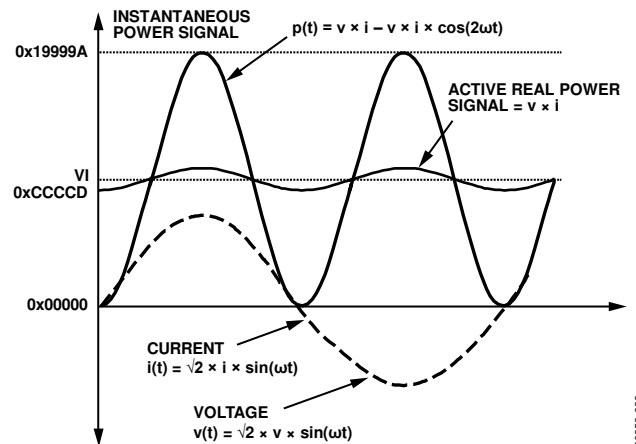

Figure 64. Active Power Calculation
Note that the active power is equal to the dc component of the instantaneous power signal $p(t)$ in Equation 11, that is, VI . This is the relationship used to calculate active power in the ADE7116/ADE7166/ADE7169/ADE7566/ADE7569. The instantaneous power signal $p(t)$ is generated by multiplying the current and voltage signals. The dc component of the instantaneous power signal is then extracted by LPF2 (low-pass filter) to obtain the active power information. This process is illustrated in Figure 64.
The ADE7116/ADE7166/ADE7169/ADE7566/ADE7569 also incorporate an active power offset register (WATTOS[15:0], Address 0x20). It is a signed, twos complement, 16-bit register that can be used to remove offsets in the active power calculation (see Figure 64). An offset can exist in the power calculation due to crosstalk between channels on the PCB or in the IC itself. The offset calibration allows the contents of the active power register to be maintained at 0 when no power is being consumed.
As mentioned in the Active Energy Calculation section, the discrete time sample period (T) for the accumulation register is 1.22 μs (5/MCLK). With full-scale sinusoidal signals on the analog inputs and the WGAIN register (Address 0x1D) set to 0x000, the average word value from each LPF2 is 0xCCCD (see Figure 64). The maximum positive value that can be stored in the internal 49-bit register is 2⁴⁸ (or 0xFFFF,FFF,FFF) before it overflows. The integration time under these conditions when WDIV = 0 is calculated in the following equation: